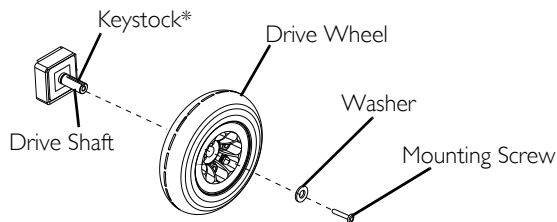

FIGURE 9.1 Removing/Installing the Drive Wheels
For this procedure, refer to FIGURE 9.1 on page 34.
1. Place keystock* in cutout on drive shaft as shown in FIGURE 9.1.